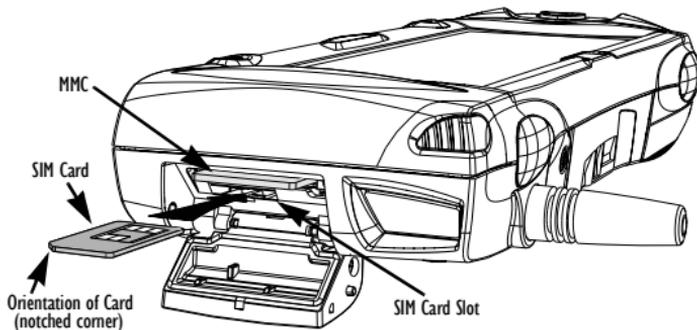

Figure 2.9 Insertion Of SIM Card
- Push the SIM card into place until it is fully inserted. Note the orientation of the card, shown in Figure 2.9, with the notch of the card on the left, trailing side. Close the door.